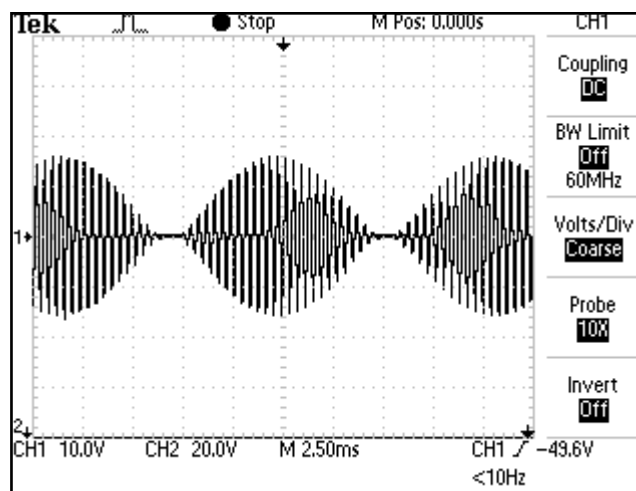

FIGURE 4.7
F. IFC (Interferential) Premodulated (2p)- Figure 4.7